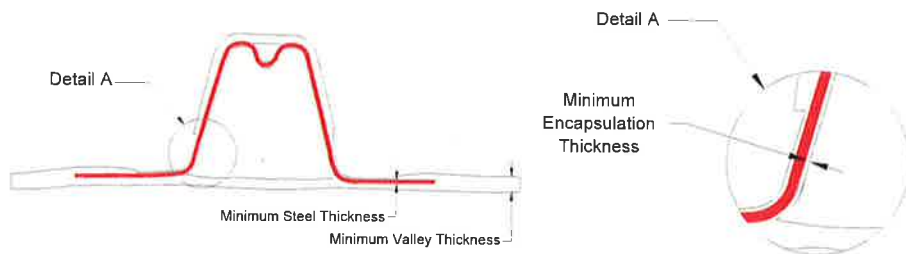

Figure 2—Encapsulation and Wall Thickness
3.2.4. *encapsulation thickness*—the thickness of the high density polyethylene (HDPE) bonded to either side of the steel reinforcement (see Figure 2).
- 6.2.2. *Steel Content*—The steel content shall not exceed 75 percent of the total weight of the pipe. The steel material shall be fully encapsulated by the polyethylene material with a minimum thickness of the polyethylene as shown in Table 1 and Figure 2.